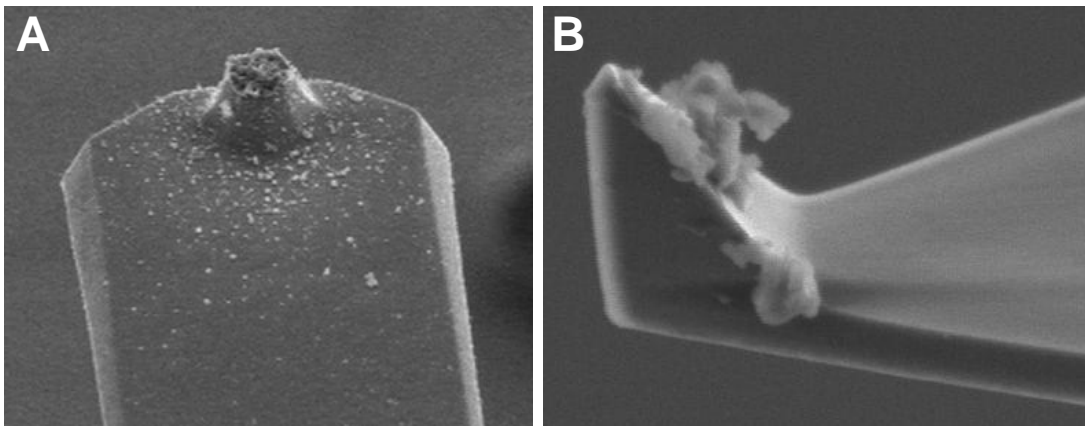

Figure 5.7: SEM images of compromised tips: A) broken tip, will shift f_0 to higher value; B) debris on tip will add mass, shift f_0 to lower value.
- Figure 5.7 shows two cases in which a thermal tune can tell you what has happened if the resonant frequency changes throughout an imaging experiment. *If the tip breaks (lowering mass, increasing f_0 ; Figure 5.7A), or if there is an increase in mass on the cantilever/ tip from adhered debris (lowering f_0 ; Figure 5.7B).*